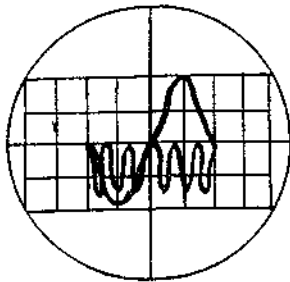

Fig. 4
- c. Align the secondary coil L18 of discriminator so that the sign wave appearing on the flyback line of "S" curve will disappear (Refer to Fig. 4, 5, 6).